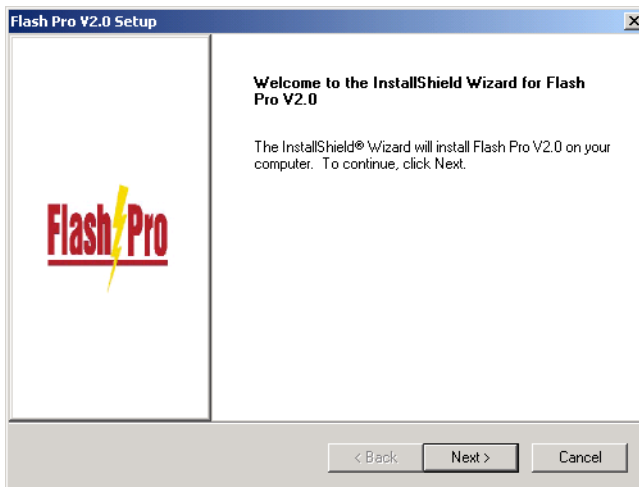

Figure 1-1. Flash Pro Installation Wizard
1. **Insert the Flash Pro CD into your drive.** The installation wizard starts, as shown in Figure 1-1.